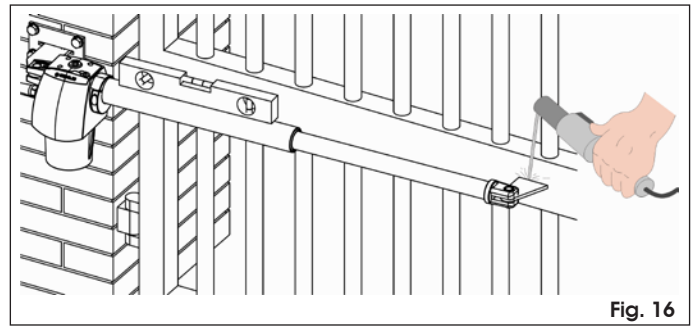

Fig. 16
9. Bring the operator pipe to the leaf until the front bracket rests against the leaf (Fig.16).
10. Using a level, check if the operator is perfectly horizontal and provisionally secure the front bracket with two weld spots (Fig. 16.).